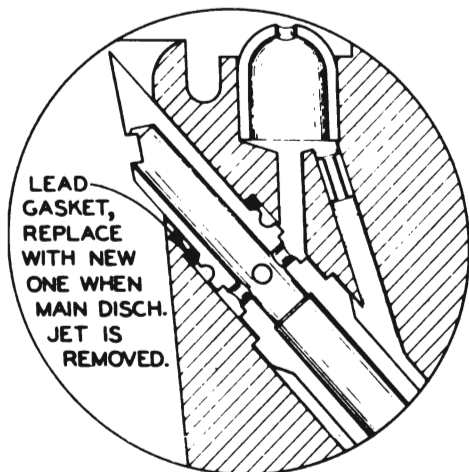

Figure 3-75—Position of Main Discharge Jet and Gasket
7. Place *new* lead gaskets over beveled ends of main discharge jet. Use Jet Remover T-24967 to install jets in main body, being careful to position jets so that flat surface is parallel with the direction of air flow. See figures 3-75 and 3-70.